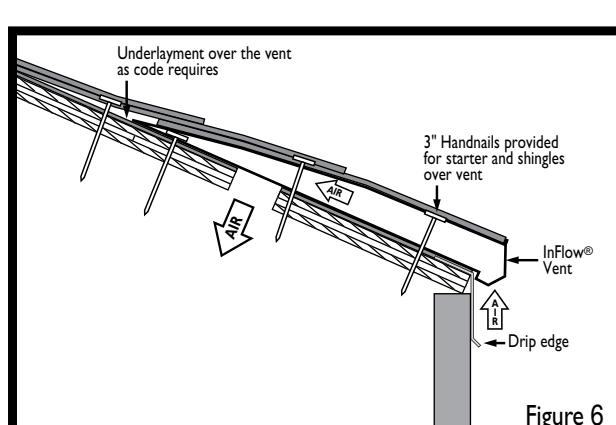

Figure 6
See Figure 6 and 7.
Step 11: Hand nail the starter and roofing shingles on top using the 3" nails provided. See Figures 6 and 7.